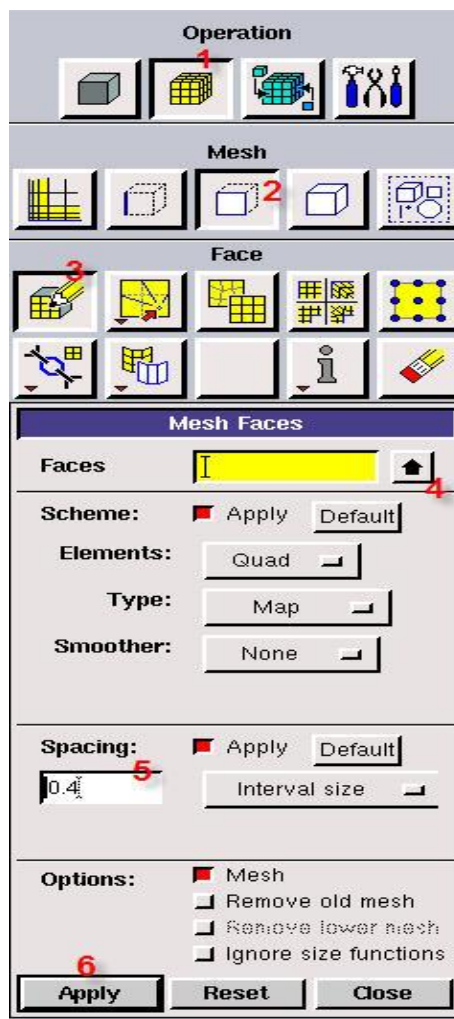
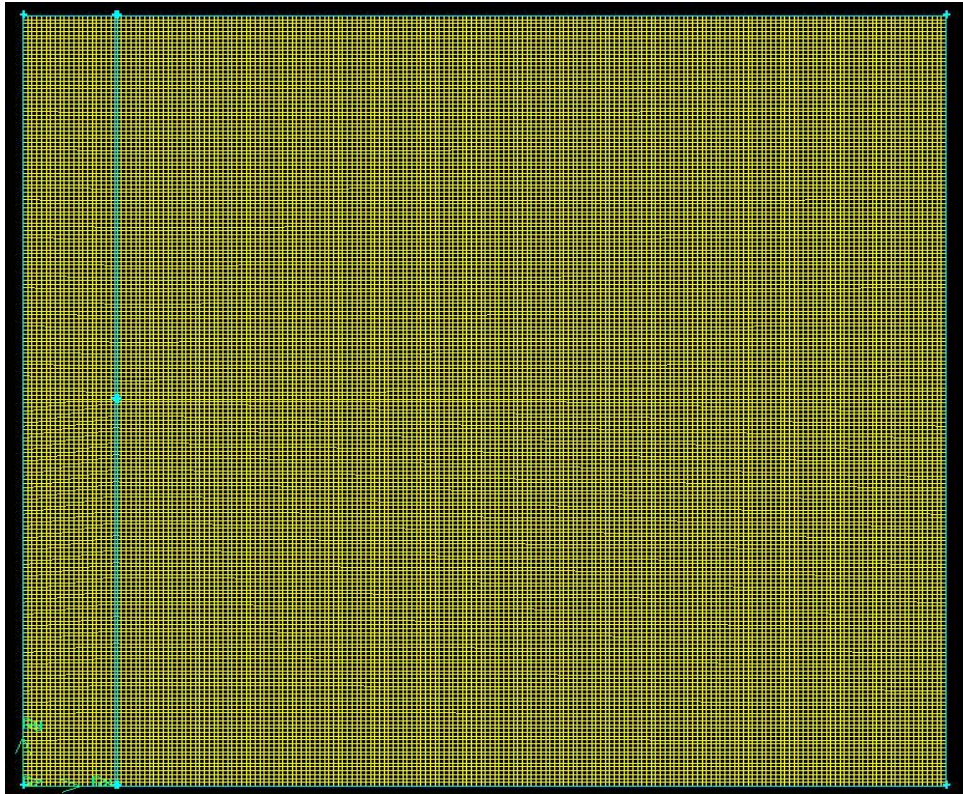

Figure 2.7 Steps to mesh the simulation domain
Figure 2.8 The completed meshed simulation domain
Follow the steps illustrated in Figure 2.7 to mesh the simulation domain. In the **Operation Toolpad** , select **Mesh Command Button (1)** >> **Face Command Button (2)** >> **Mesh Faces (3)** >> **Choose Faces (4)**, choose all faces >> **Specify Mesh Spacing (4)** >> **Apply button (5)**. The complete meshed simulation domain is demonstrated in Figure 2.8. At this step, all the geometry definition had been completed and boundary conditions of the simulation domain were specified in Section 2.2.